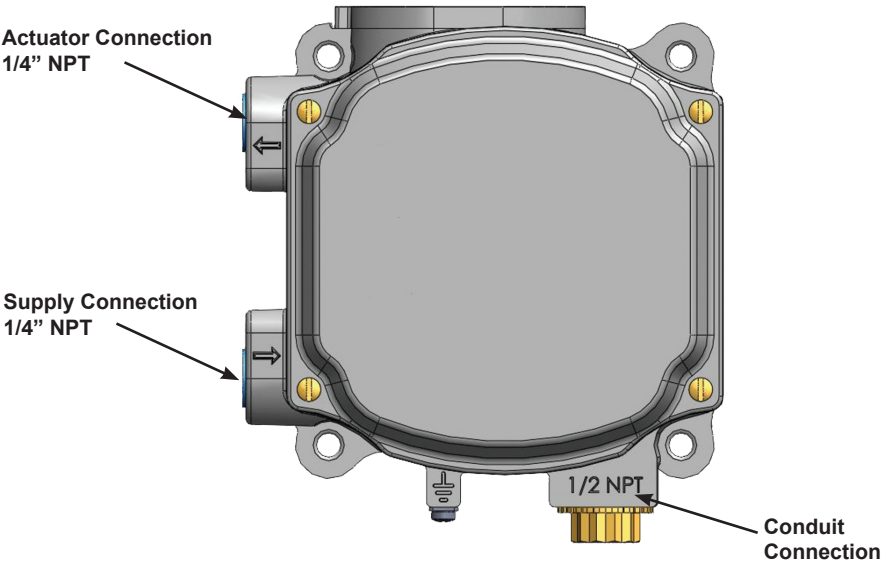

Figure 17 - Air Ports
- 1. Install the tubing to the air supply port. Minimum tubing diameter 1/4" (Figure 17).